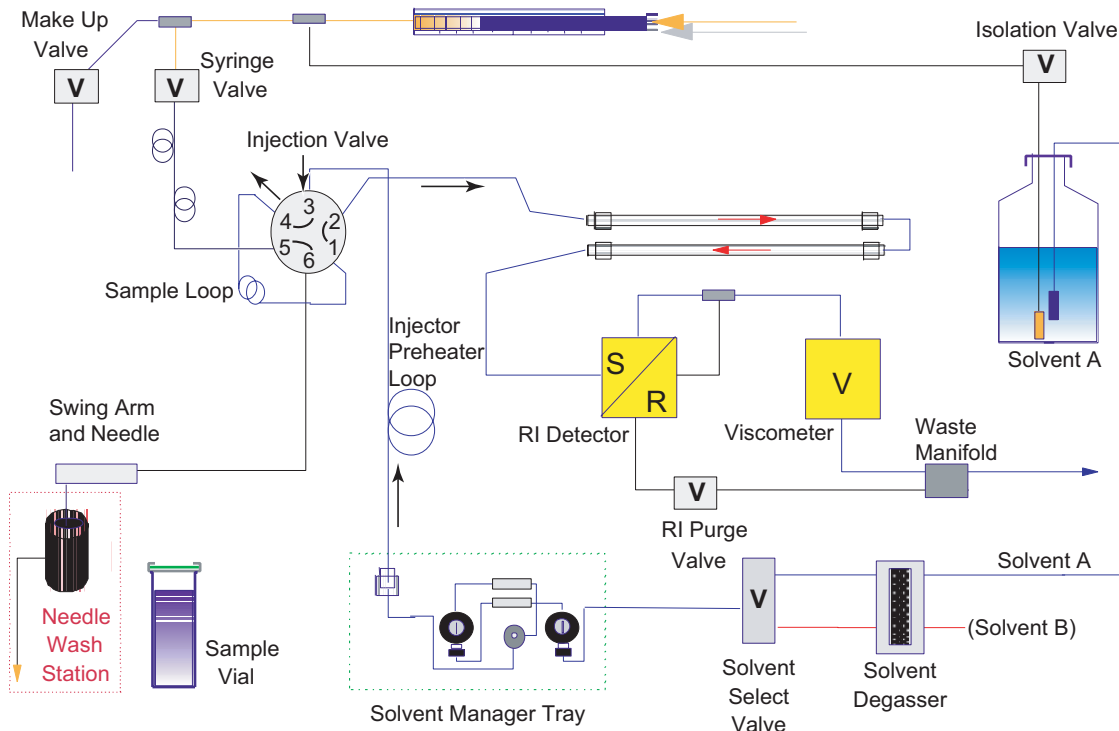

Figure 1-6 Injecting the Sample
3. Sample injection – The injection valve switches to the inject position. Solvent from the injector preheater loop flows into injection valve port 3 and out port 4, picking up sample and depositing it onto the column. After the final injection, excess sample returns to the vial or the wash station (Figure 1-6) depending what you specify in the Instrument Method.